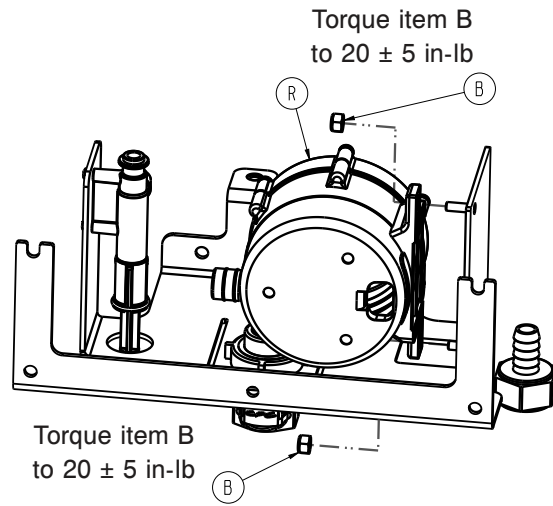

Figure 19 – Fluid pump to the fluid bracket
7. Pull up and rotate the fluid assembly bracket to gain access to the fluid pump (R) (Figure 19).
9. Using a 3/8" combination wrench, remove the two nuts (B) that secure the fluid pump to the fluid bracket (Figure 19). Save the nuts.